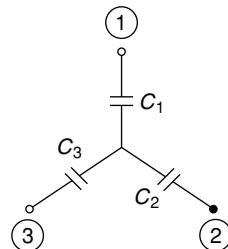

Fig. 1.50a *Equivalent star connection of delta-connected capacitors in Ex. 1.49*
Figure 1.50a represent the equivalent star capacitances provided net capacitances between terminals ① – ②, ② – ③, ③ – ① remain same for both the configurations. Capacitances